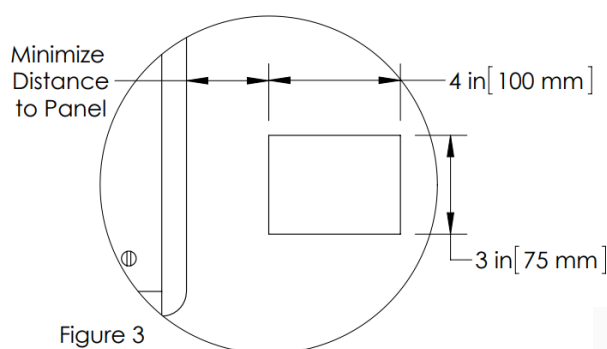

Figure 3
3. **Cut mounting hole.** Measure and cut a hole in the mounting substrate (wall) for the SPD per Figure 3. Ensure the mounting hole will allow the SPD to properly connect to the panel per the instructions included with the SPD.